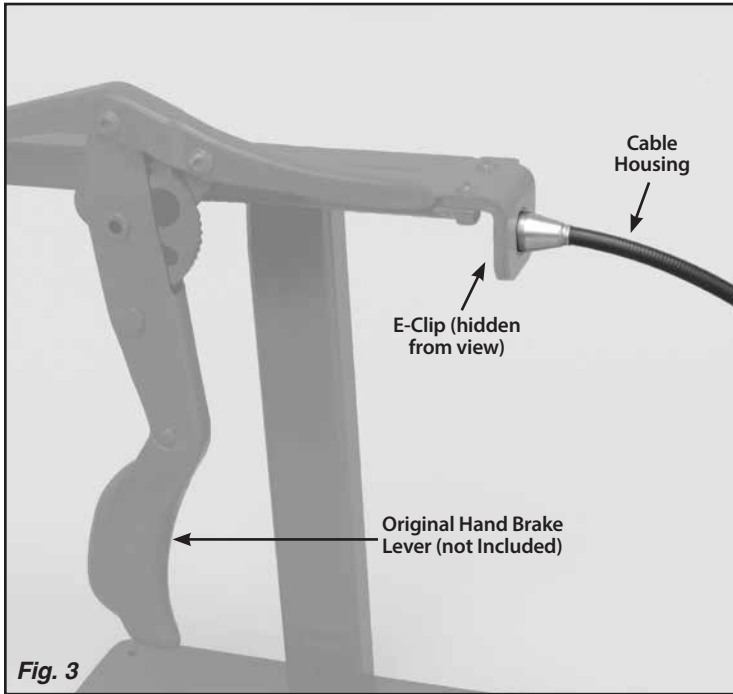

Fig. 3
Step 2: Install the new cable housing into the Ford hand brake mechanism under the dash, using the provided E-Clip as shown in **Fig. 3**.